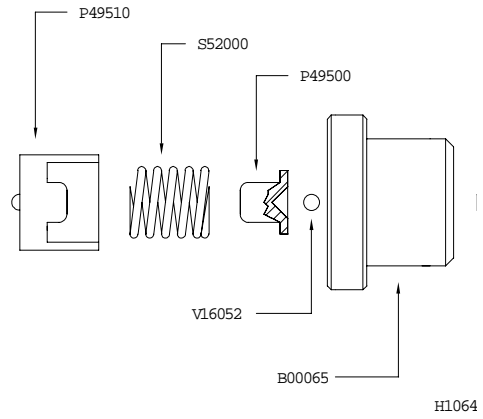

Figure 4-45: Assembly of Air Loaded and Spring Loaded Pistons
27.	Apply KRYTOX 240 AC grease to the compression plate (17) beveled cone. Insert the ball (20) into the greased cone.
28.	Insert both the compression plate (17) and ball (20) into retaining base (18). Refer to figure 4-45.
29.	Apply KRYTOX 240 AC grease to base socket head set screw (21) then screw it into retaining base (18). Leave about one thread of set screw showing.
31.	Place compression spring (16) on compression plate (17).
32.	Place compensation plate (15) over the compression spring (16).